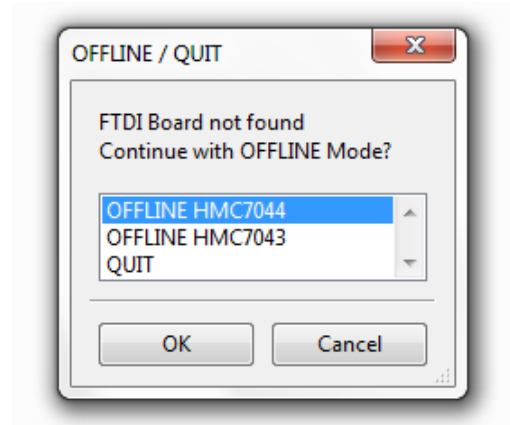

Figure 3. Select USB Device Window/Evaluation Board Not Found (Offline Mode)
4. If the evaluation board is not found, a dialog box appears. In this box, select either OFFLINE HMC7044 mode or OFFLINE HMC7043 mode (see Figure 3). Offline mode is useful for viewing and generating register setup files.